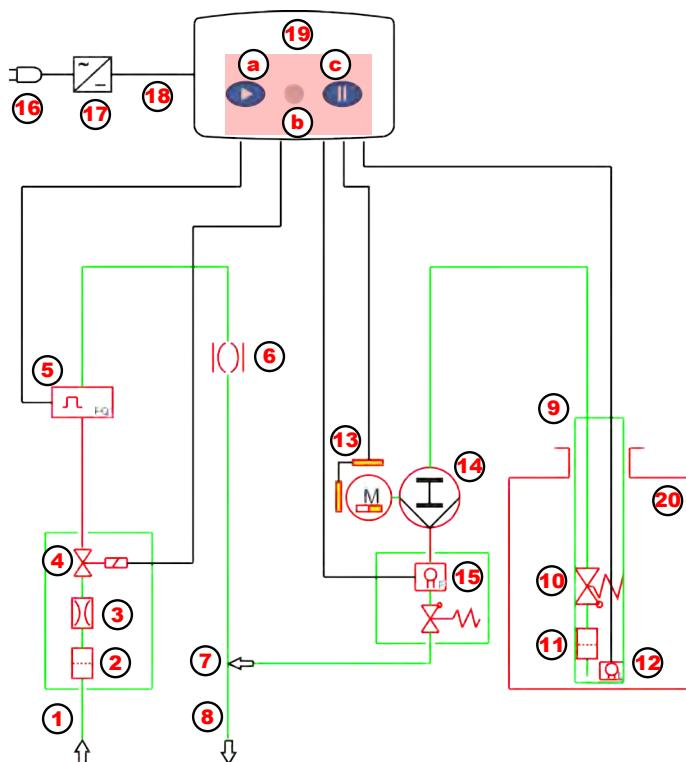

Fig. 1: Functional diagram
This error message must be acknowledged before further dosing by pressing the stop (pause) button. At the same time, the dosing pump (Fig. 1, pos. 14) is activated, which sucks in disinfectant according to the set concentration from the product supply container (pos. 20).